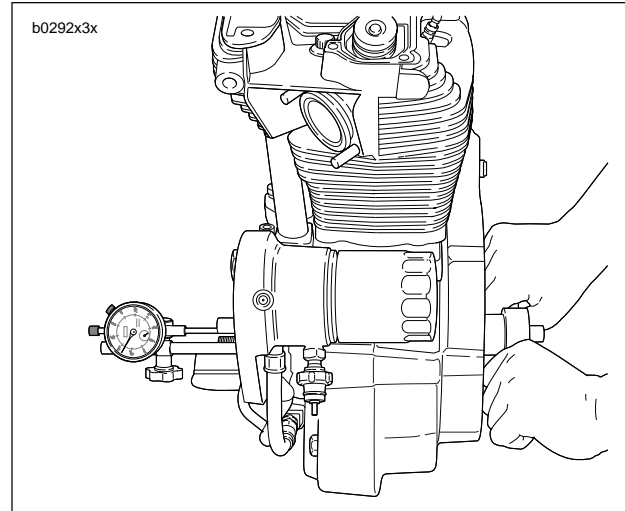

Figure 3-75. Checking Flywheel End Play
- See Figure 3-75. Attach a dial indicator to gear side crankcase with indicator stem on end of gearshaft.